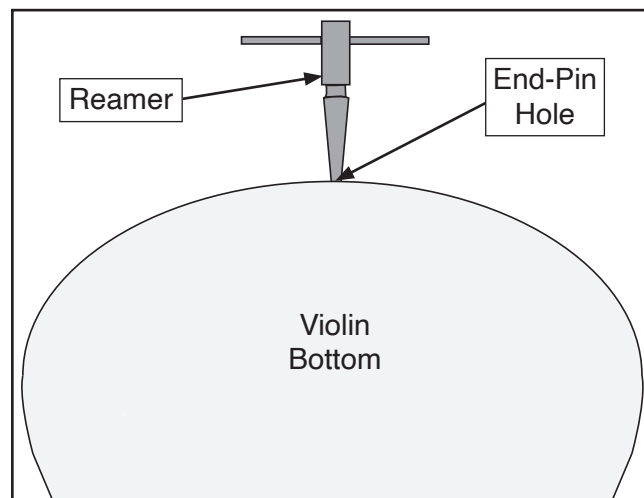

Figure 8. Reaming end-pin hole.
5. Insert T-handle reamer in hole and gently twist clockwise, making one complete revolution (see **Figure 8**).